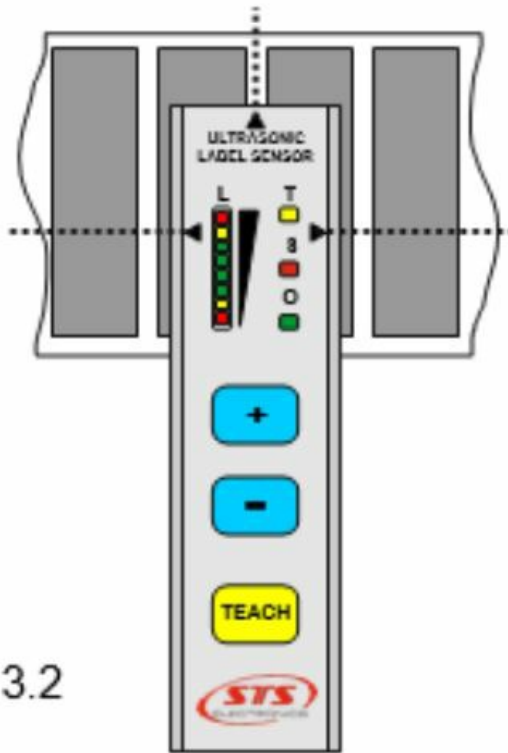

Figure 3.2
1. Position the stock so that the gap is under the sensor, as shown in figure 3.2